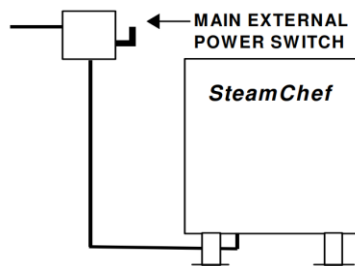

Figure 3-7 Main External Power Switch
3. A main external disconnect switch should be installed near the SteamChef as shown in Figure 3-7.
- The fuse or breaker and disconnect switch combination is called the “Main External Power Switch.” See Figure 3-7.